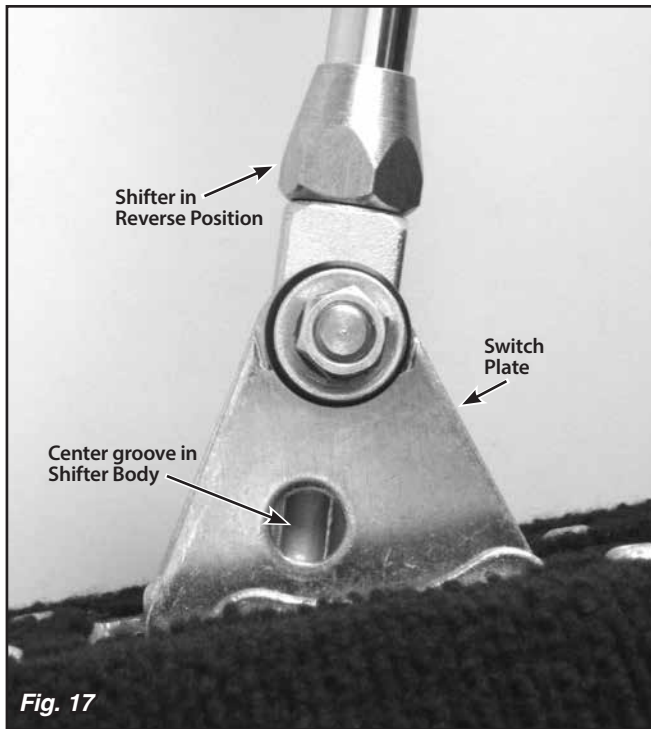
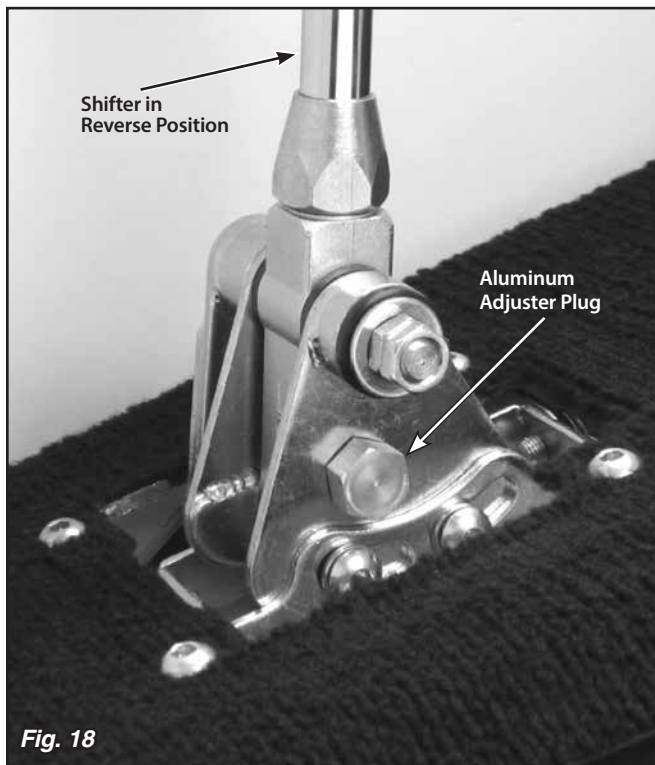

Fig. 17
Fig. 18
**Step 24:** Put the shifter into the Reverse position. Reposition the switch plate so that the hole in the switch plate lines up with the center groove in the shifter body. **Fig. 17** Screw the provided aluminum adjuster plug into the neutral safety switch opening. Wiggling the switch plate slightly forward and back while you are screwing the aluminum adjuster plug in will help get the shifter body centered on the adjuster plug. **Fig. 18**